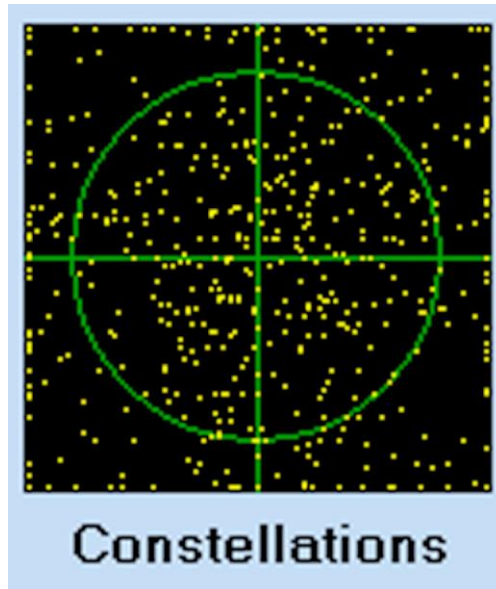

Fig 14 – The “constellation display” when there is NO SIGNAL to NIM tuner (only random noise appears)
- 3) The digital-modulation CONSTELLATIONS display should look like **Figure 14**. This is normal.
With no cable attached to the NIM Tuner RF connectors, there should be no signals present. The “constellations” display of Expert Mode should look like **Figure 14** at this point in your testing.